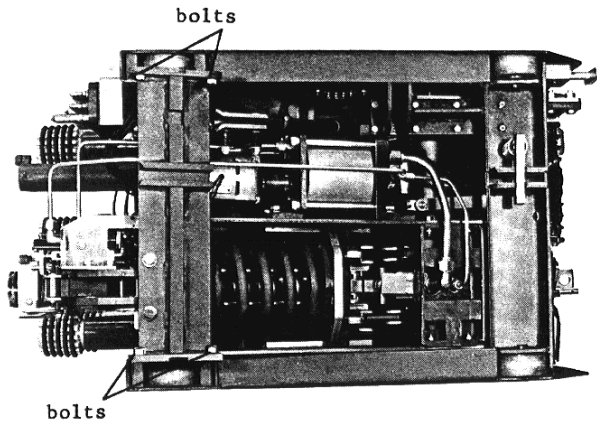

Fig 15--5-kv--1200-amp PSD circuit breaker on its side showing operating mechanism
- 18-Supporting the operating mechanism, remove the two bolts on each side of the support plate at the back of the operating mechanism. (Fig 15)